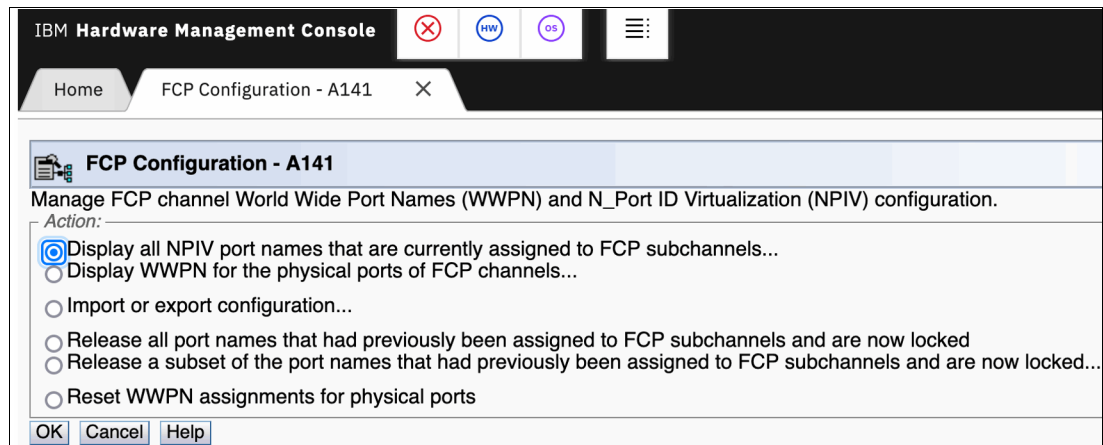

Figure 29 FCP Configuration tab
4. When the FCP Configuration tab opens, leave the option set to **Display all NPIV port names that are currently assigned to FCP subchannels...** and click **OK** (Figure 29).